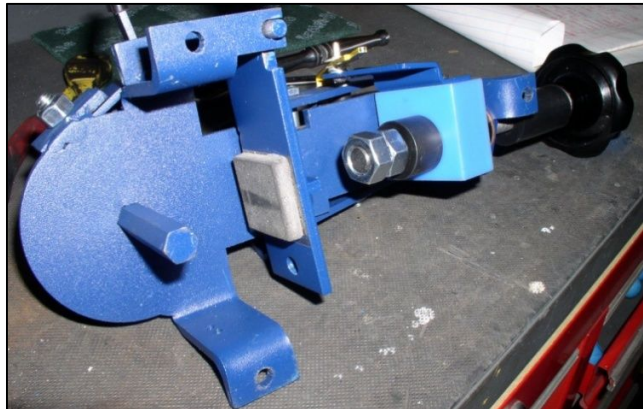

Figure 7.60
11. Install the new brake pad (Figure 7.60).